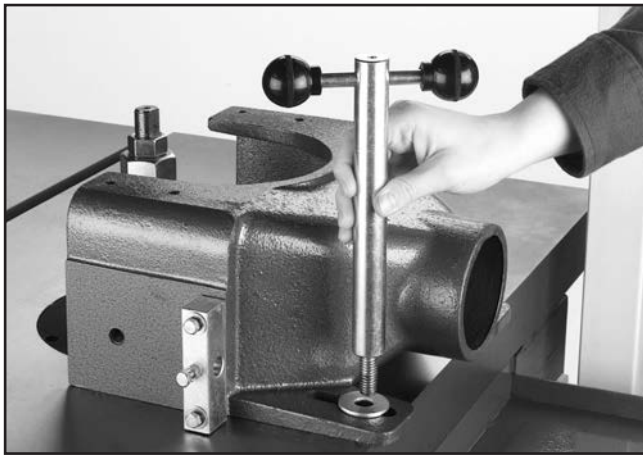

Figure 14. Inserting shaft guide into guard.
2. Insert the shaft guide with a washer into the guard as shown in **Figure 14**, and thread the shaft guide clockwise to secure the guard to the table.